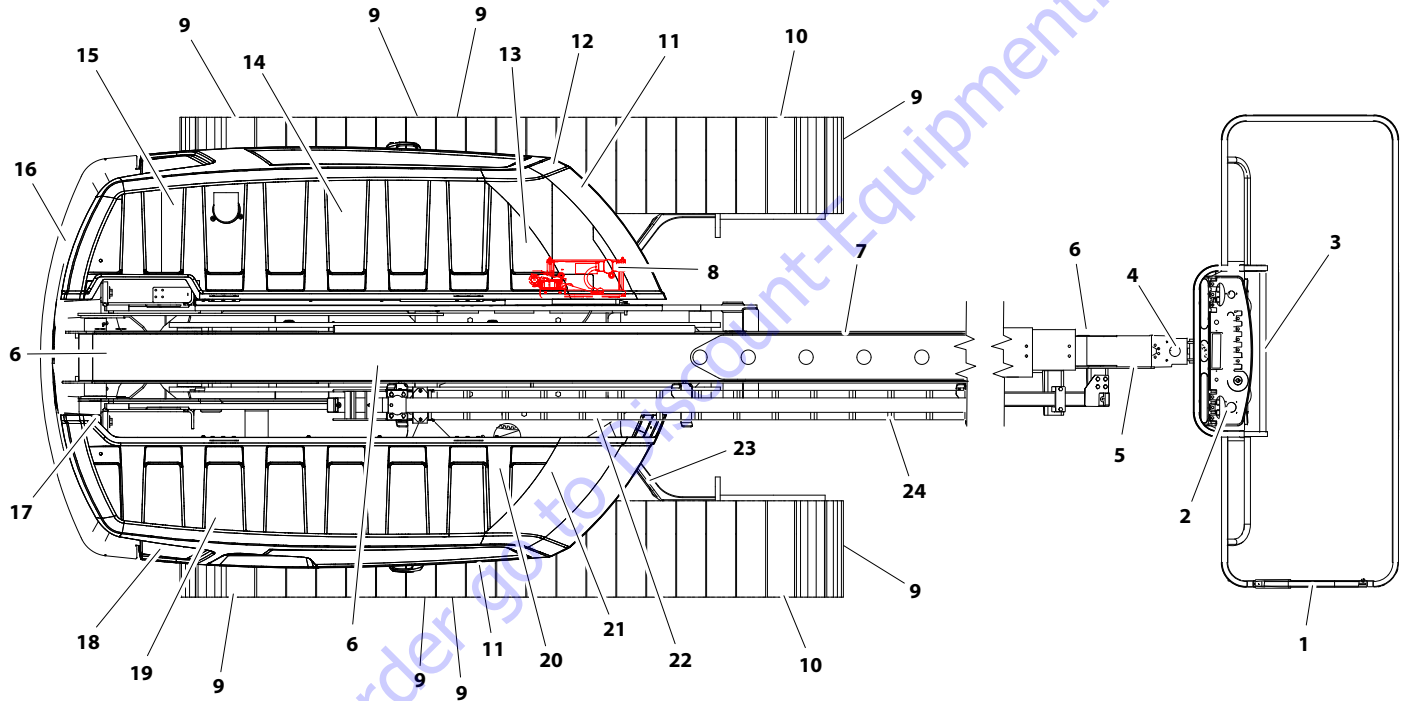

Figure 2-3. Walk-Around Inspection Diagram
5. **Walk-Around Inspection** – Refer to Figure 2-3.